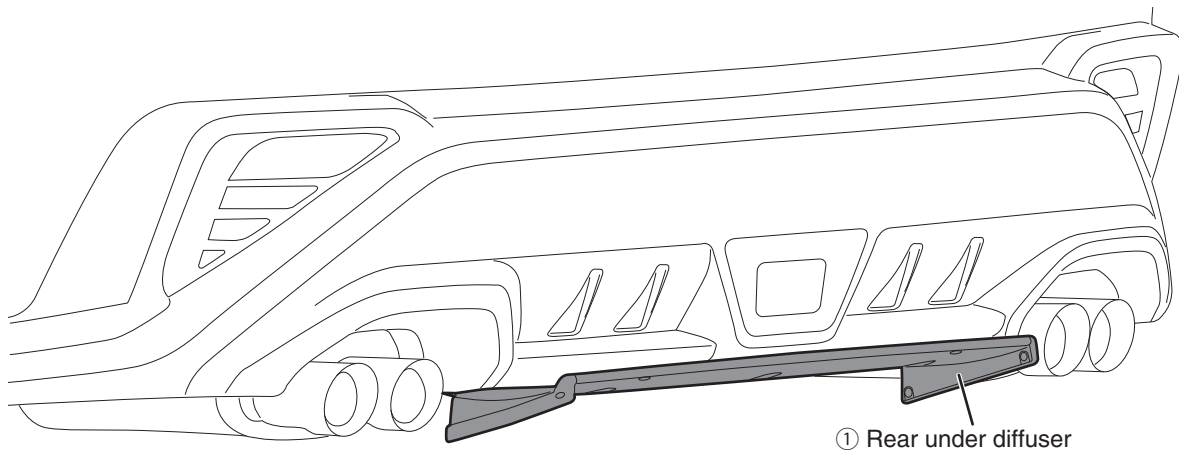

Fig. 1
- (1) Cut the template ⑧ to make the center, RH, and LH templates.
- (2) On the bottom surface of the vehicle rear bumper, attach the center template ⑧, RH template ⑧, and LH template ⑧, aligning with the radius ends. (Fig. 1)